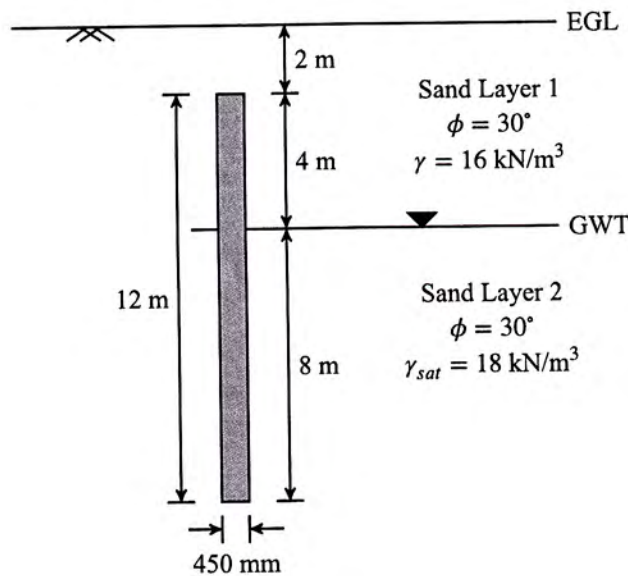

Figure 2: Question 1 (c)
- (b) A new highway embankment is to be constructed for a proposed 4-lane highway. The height of the embankment is required to be 12 m above the existing ground surface. From the slope stability analysis, it has been found that the critical height of the slope for a slope angle of 45° is 10.3 m. If the embankment (12 m height) is constructed with that slope angle (assuming that other shear strength parameters of soil are constant), will the embankment be safe? If not, how can the embankment be made safe if the height can not be reduced? (3)
- (c) An individual cast in situ concrete pile in sand having a diameter (D) of 450 mm is shown in the following figure (Fig. 2). Determine the ultimate load-carrying capacity (Q_u) of the pile. Assume $\delta = 0.8\phi$, $\psi = 75^\circ$, and $K = 1 - \sin \phi$. (10 $\frac{2}{3}$)